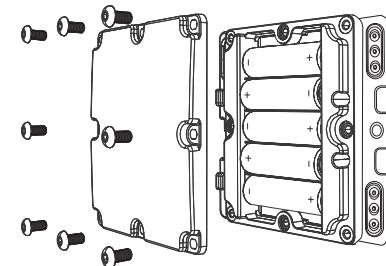

Fig. 42 Replacing 1.5 V batteries
- Remove the 8 screws (Fig. 42) using a 7/64" (2.5 mm) hexagon key.